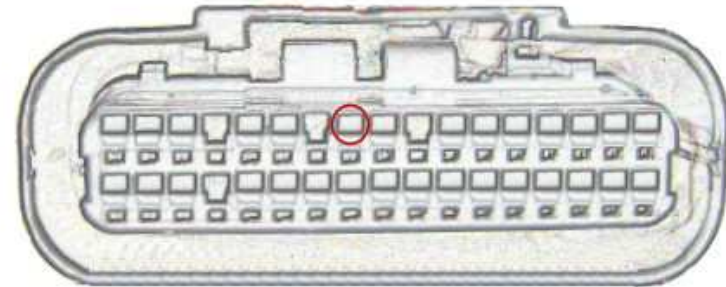

Figure 2
- 5 The wire to disable is the *Black wire with a Brown stripe*. This wire is located on the top row in position 8 (from the left) shown in figure 2. Insert a wire tool or a small flathead screw driver into the slot and push upward to unlock the indicated wire and pull it from the harness.